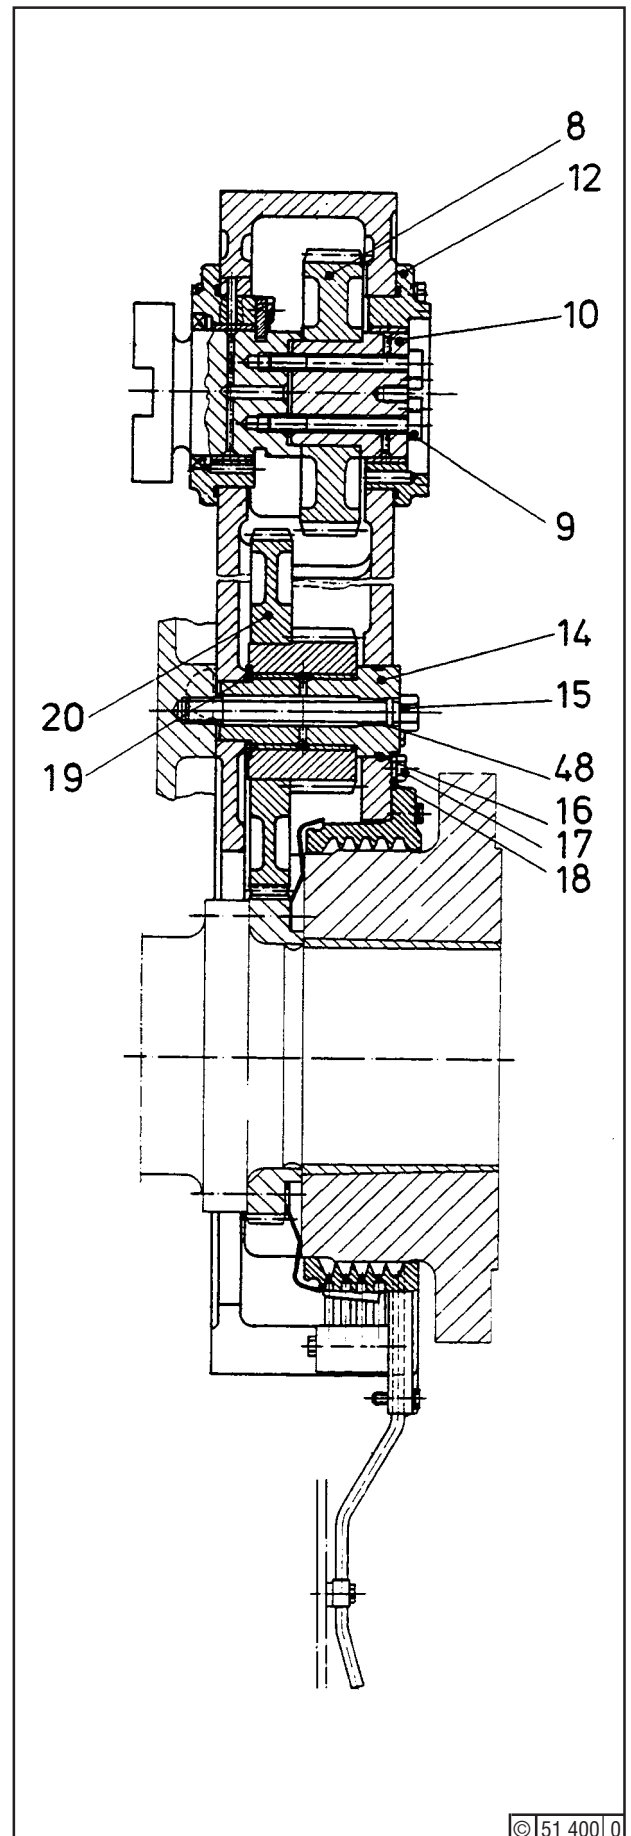

Fig. 4
Refitting Injection Pump Drive Gear (8) - Fig. 4